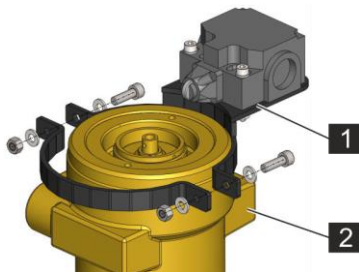

Fig. 95: Removing the clamp
2. ➤ Fasten both halves of the clamp (Fig. 95/1) to the upper collar of the valve (Fig. 95/2) with a torque of $5 \pm 0.5 \text{ Nm}$ ($3.69 \pm 0.37 \text{ ft-lb}$).